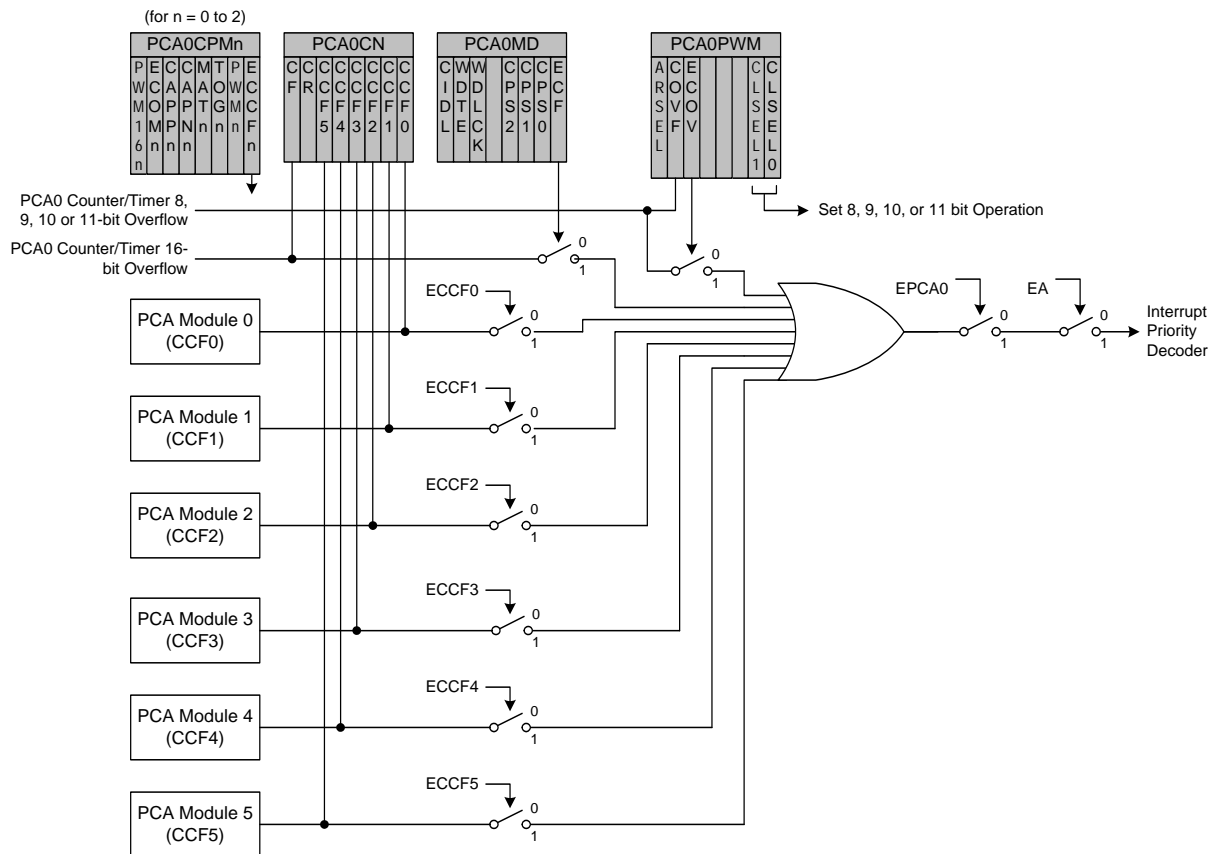

Figure 28.3. PCA0 Interrupt Block Diagram
Figure 28.3 shows a diagram of the PCA0 interrupt tree. There are five independent event flags that can be used to generate a PCA0 interrupt. They are as follows: the main PCA0 counter overflow flag (CF), which is set upon a 16-bit overflow of the PCA0 counter, an intermediate overflow flag (COVF), which can be set on an overflow from the 8th, 9th, 10th, or 11th bit of the PCA0 counter, and the individual flags for each PCA0 channel (CCF0, CCF1, CCF2, CCF3, CCF4 and CCF5), which are set according to the operation mode of that module. These event flags are always set when the trigger condition occurs. Each of these flags can be individually selected to generate a PCA0 interrupt, using the corresponding interrupt enable flag (ECF for CF, ECOV for COVF, and ECCFn for each CCFn). PCA0 interrupts must be globally enabled before any individual interrupt sources are recognized by the processor. PCA0 interrupts are globally enabled by setting the EA bit and the EPCA0 bit to logic 1.